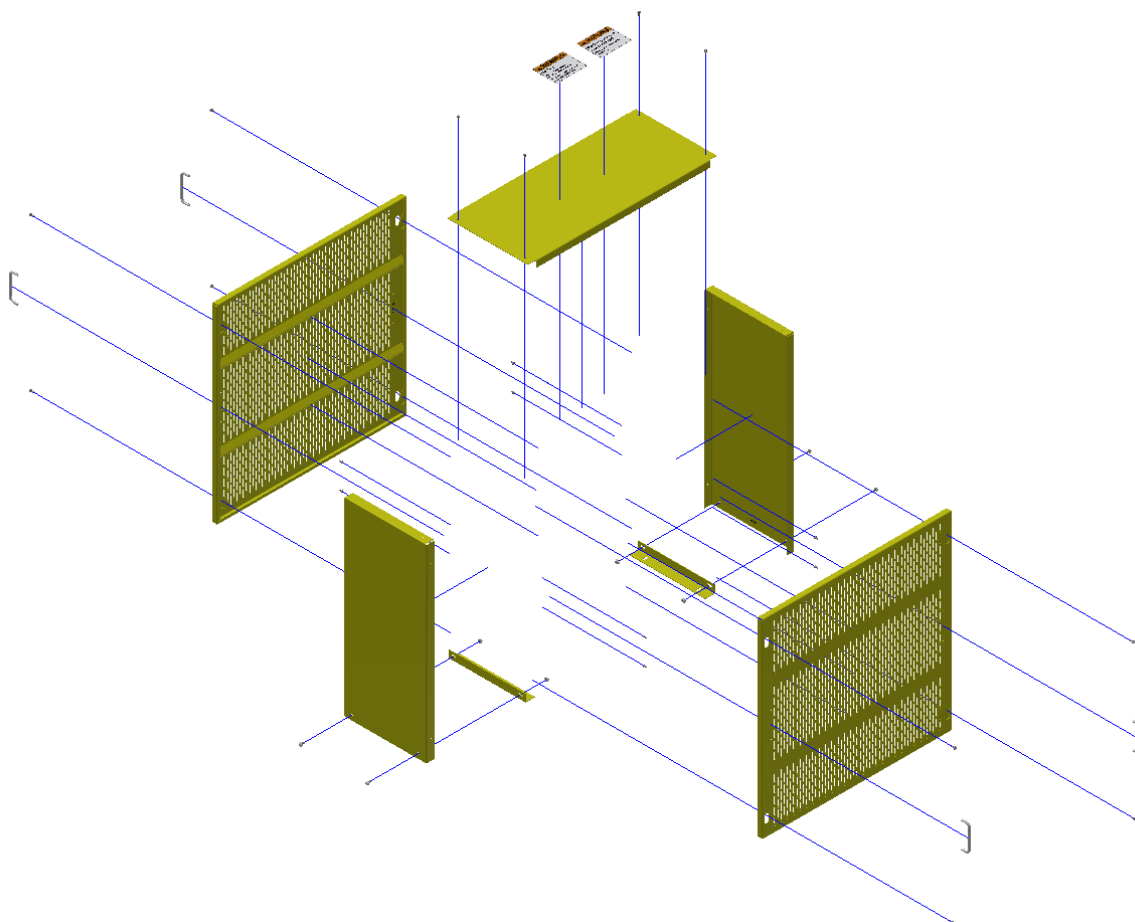

Figure 1: Exploded View (201-100 Depicted)
- See the exploded view of the governor guard assembly shown in Figure 1.